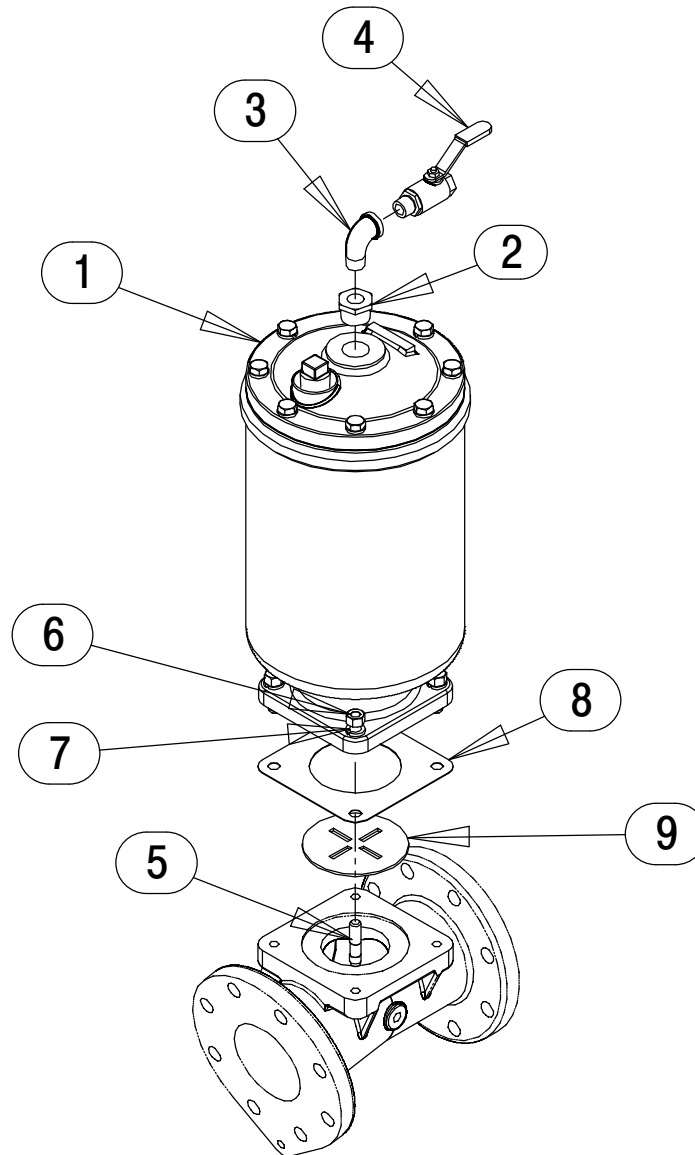

Figure 6. Priming Chamber Kit
**Priming Chamber Removal And Disassembly****(Figure 6)**